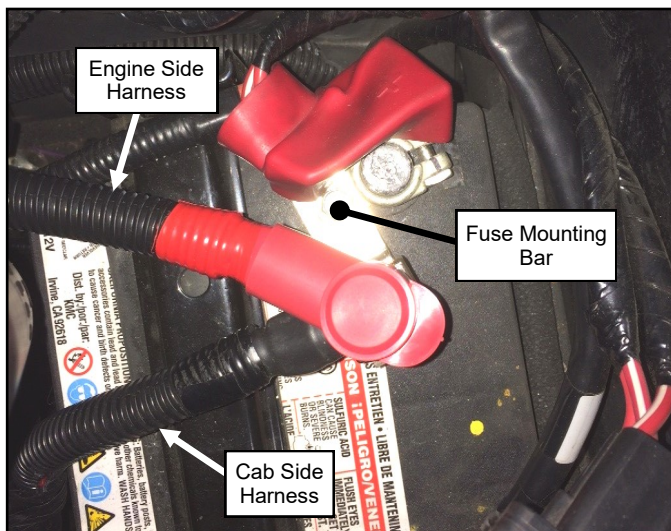

Fig. 4.7 (Install A/C Power Supply Harnesses, Battery Side, DXT)
- 4.7** Install Fuse Mounting Bar, 100 amp fuse and both engine and cab side A/C Power Supply harnesses to the positive terminal found on the vehicle's battery. See fig 4.7.